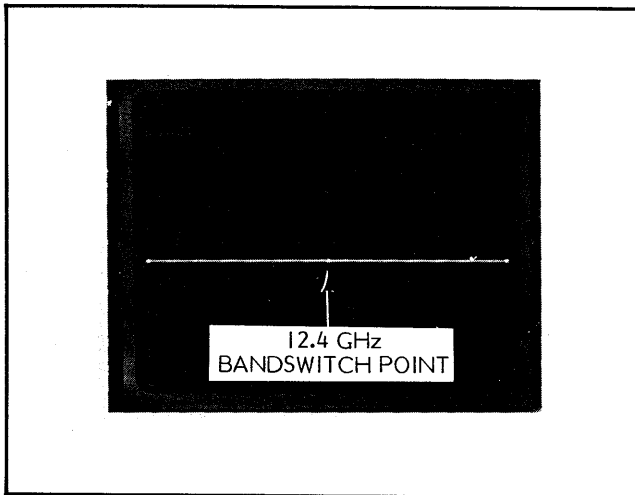

Figure 5-21. Bandswitch Dwell Signal
3. Adjust the oscilloscope vertical controls to obtain a horizontal trace, as shown in Figure 5-21.
4. Adjust A5R13 on the Frequency Instruction PCB to center the bandswitch intensity-dot on the oscilloscope display (Figure 5-21).